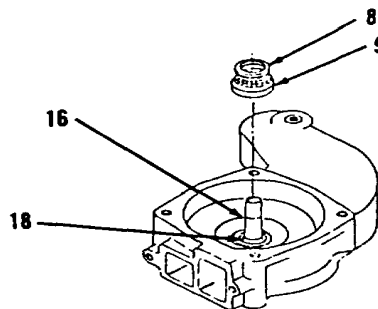
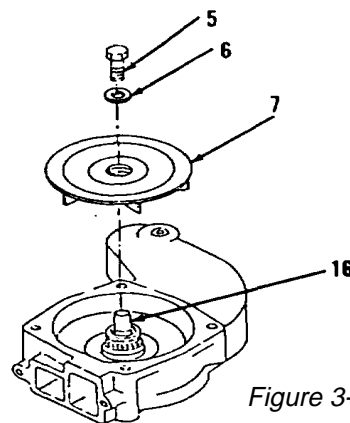
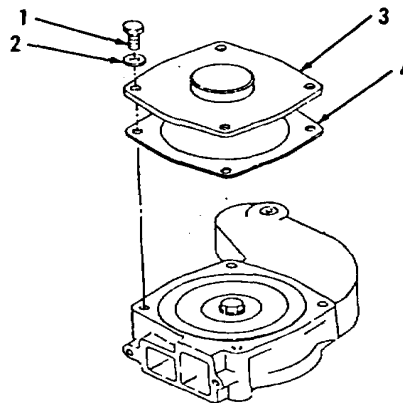

Figure 3-182.
Figure 3-181.
Figure 3-179.
- 16. Soak new seal (9) in cold, clean water for 30 seconds and lubricate new seal (9, Figure 3-182).
- 17. Using seal installer tool, install new seal (9) on shaft (16) until seal (9) touches new seal (18).
- 18. Install new spring (8) on new seal (9).
- 19. Position impeller (7) on shaft (16, Figure 3-181).
- 20. Install washer (6) and bolt (5). Tighten bolt (5) to 28 ft-lb torque.
- 21. Position new gasket (4) and cover (3, Figure 3-179).
- 22. Install two washers (2) and bolts (1).